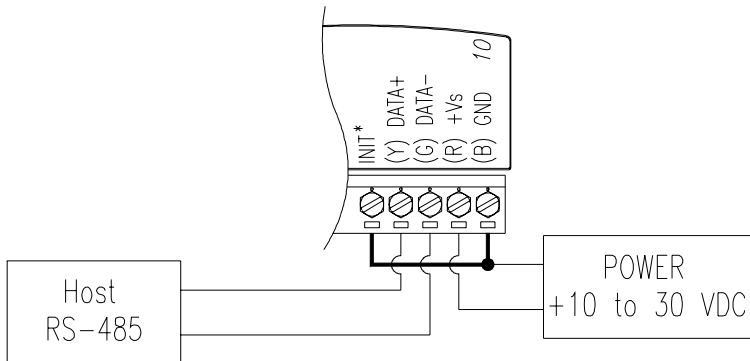

Figure 2-3 ***Grounding the INIT* Terminal***
- Power the ADAM module on while shorting the INIT* and GND terminals (See Figure 2-3).